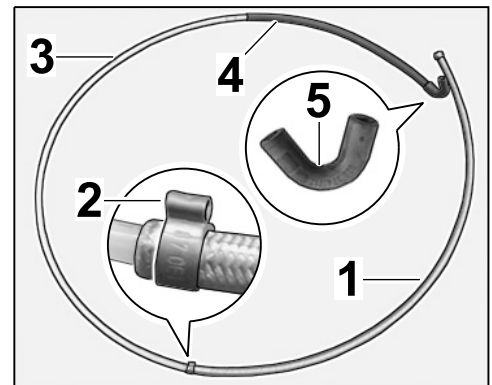

Figure 23
- 3.3 Connect vacuum line (from change-over valve to control box) ⇒ *Figure 23* and lock single-lug clip.